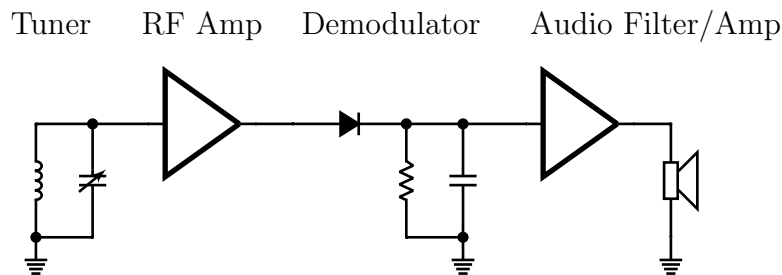

Figure 1: Overview of the circuit we will be constructing.
An overview of the circuit we will be building is shown in Fig. 1. A large external antenna is inductively coupled to a resonant LC circuit. By adjusting the value of the variable capacitor, the resonant frequency changes, and the AM radio station of interest is selected. This weak radio frequency (RF) signal (of about 20 mV) is amplified so that it is larger than a diode drop. The signal is then demodulated by a diode plus low-pass filter, which is tuned to keep only the audio frequency (below 20 kHz). The audio signal is then amplified and played on a speaker.